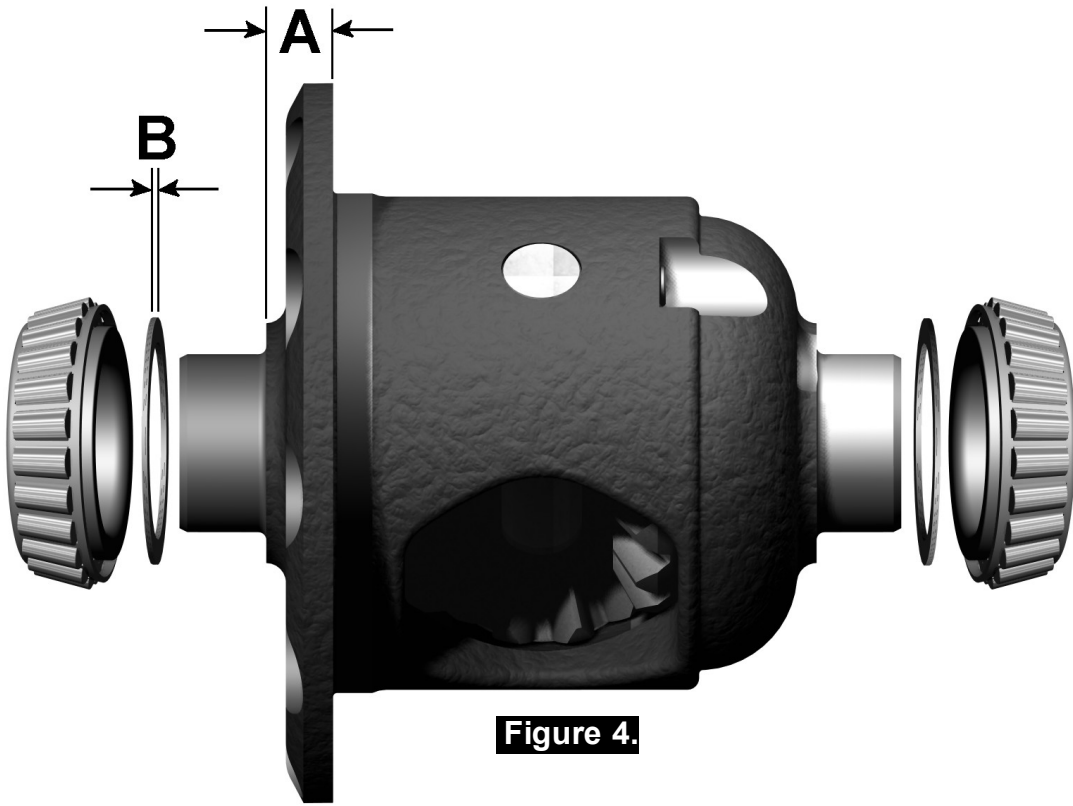

Figure 4.
- Using a caliper or similarly accurate measurement method (i.e., able to take accurate measurements within 0.04mm [0.0015"]), measure the distance from the bearing shoulder to the ring gear mounting face (shown as 'A' in Figure 4.) and record this measurement as 'A'.
- Measure the thickness of the shim pack removed from the ring gear side of the differential carrier (shown as 'B' in Figure 4.) and record this measurement as 'B'.
- To increase the amount of backlash, reduce the shim thickness 'D'. (Fig. 4.) and increase the shim thickness 'E' (Fig.8.) by the same amount. Reverse this step to decrease the backlash.